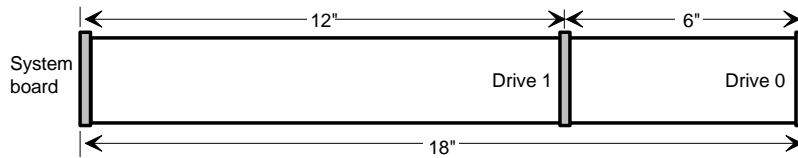

Figure 15: IDE Cable Dimensions
For proper IDE operation, note the cable length specified in Figure 15. If no drives are present on an IDE channel, the cable must be removed. If only one drive is installed, it must be connected at the end of the cable.
- **IDE drive:** The system board has one IDE connector. It can support an IDE signal cable up to 18 inches long. See Figure 15 on page 49 for the cable dimensions.